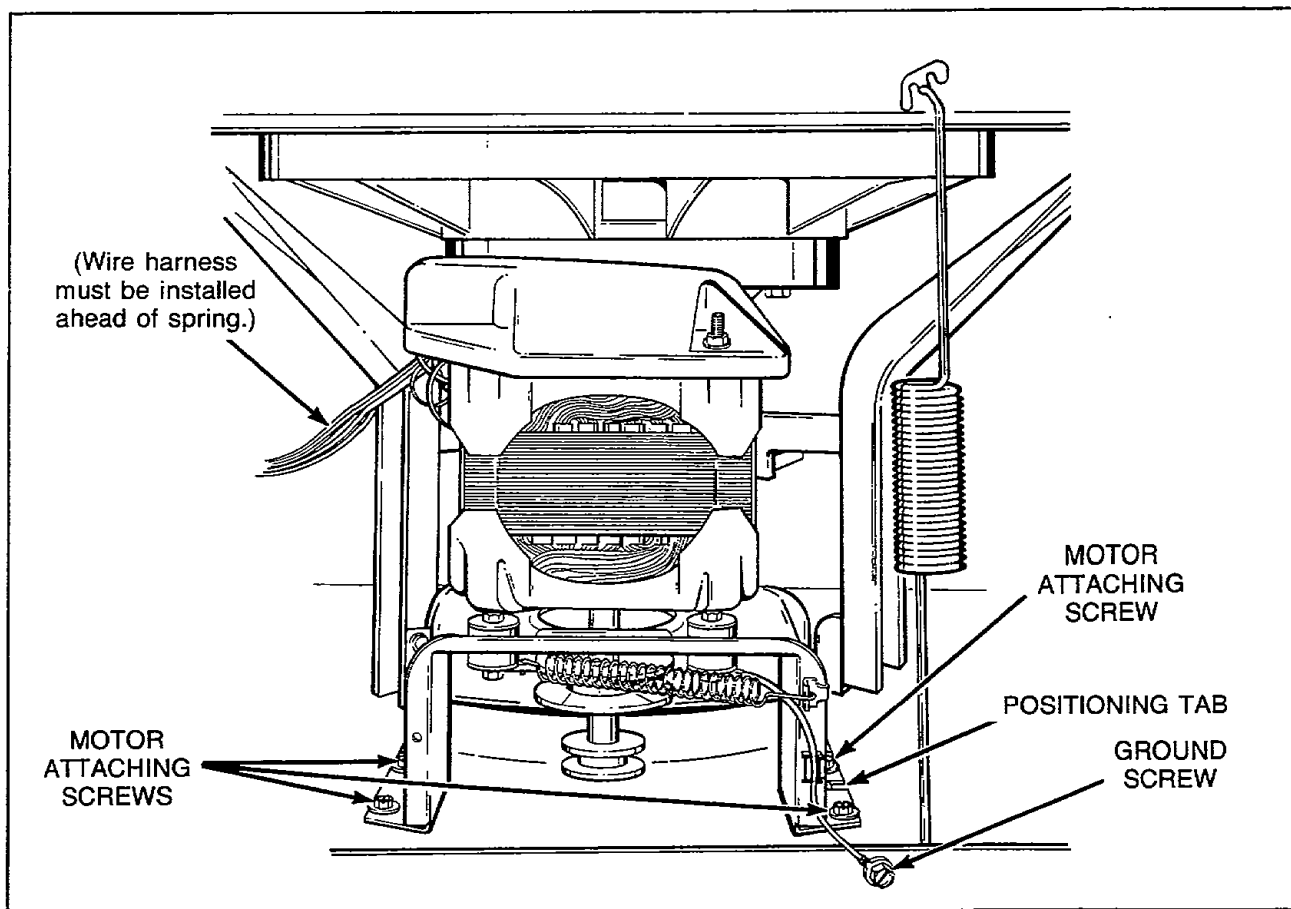

Figure 13
NOTE: There is no belt adjustment after installing new drive belt. Check to be sure motor and mounting bracket has been shifted toward rear of washer to its limit of travel within the mounting bracket attaching screws. If the motor and mounting bracket must be repositioned, loosen the four motor attaching screws, *Figure 13*, and shift motor and mounting bracket toward rear of washer to its limit of travel. Retighten the four attaching screws, *Figure 13*.
- d. Remove screw holding ground wire to washer base, *Figure 13*.
e. Remove four screws holding motor and mounting bracket to washer base, *Figure 13*, then lift complete assembly out of washer.